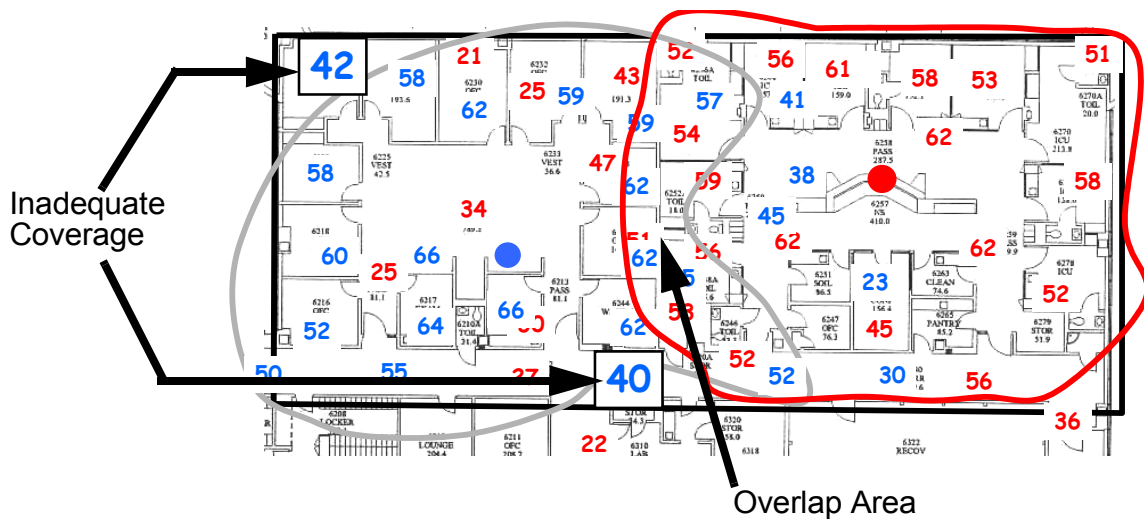

Figure 3-8 Floor Plan with Overlap and Inadequate Coverage Area
Step 5. Check for inadequate coverage and excessive overlap. See Figure 3-8.